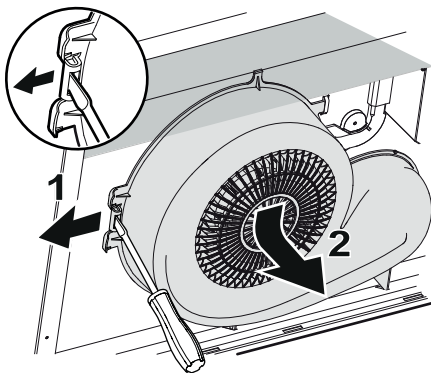

Fig. 4
Release the blower by bending the snap retainer outwards in the direction of the arrow (1) and pushing the blower away from you and down (2), Fig. 4.